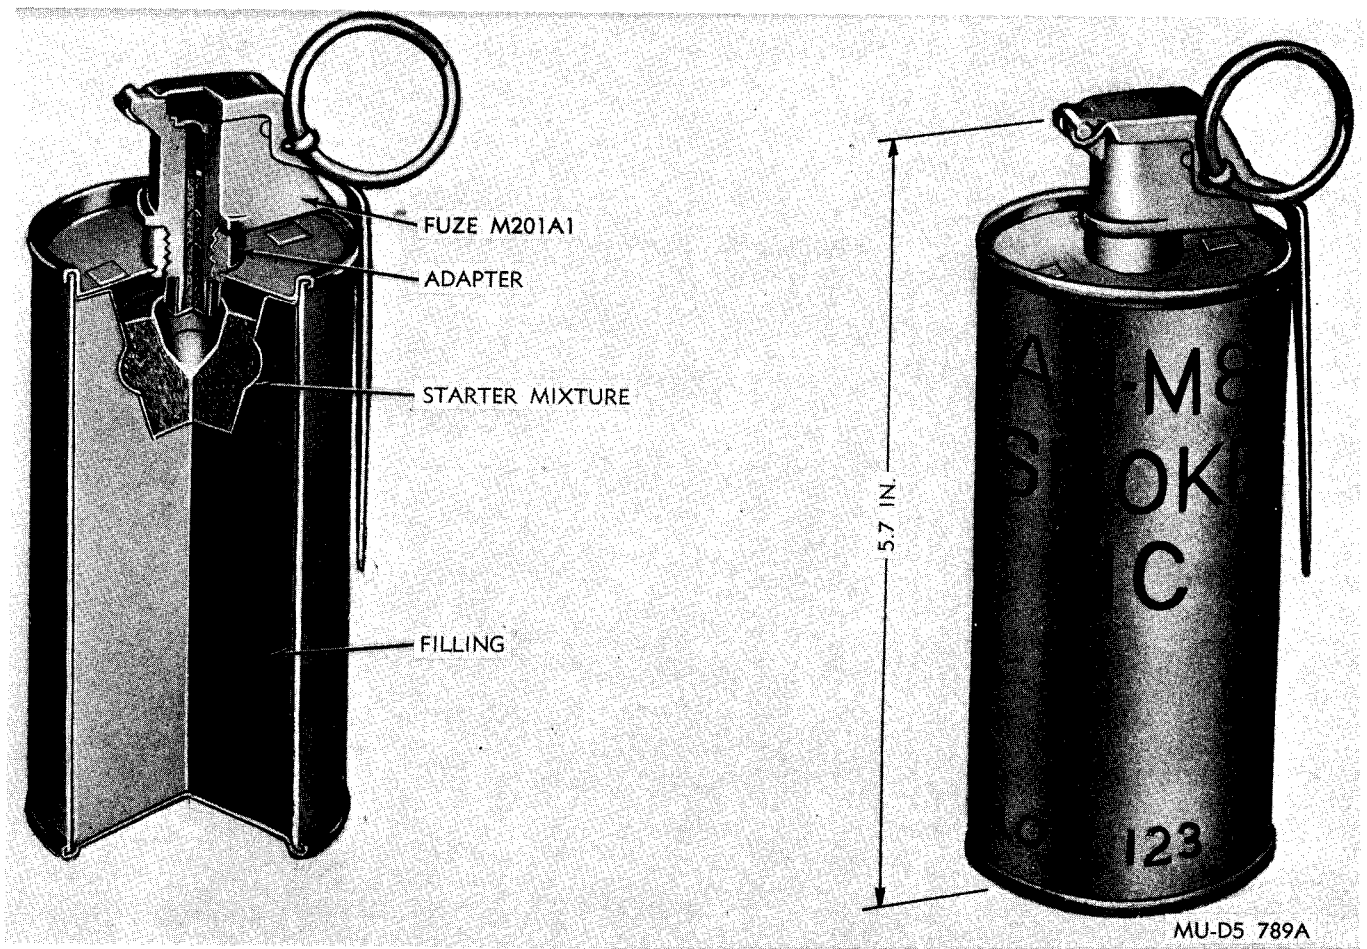

Figure 2-17. HC smoke hand grenade AN-M8.
a. *General.* HC Smoke Hand Grenade AN-M8 (fig. 2-17) is a burning type grenade used to generate white smoke for screening activities of small units. It is also used for ground-to-air signaling. The duration of smoke screen or signal is 105 to 150 seconds.